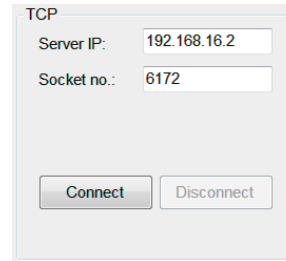

Figure 2: TCP area
9. Now click the “Connect” button in the TCP frame (Figure 2). If it does not connect immediately, click again until it successfully connects your K-MD2.